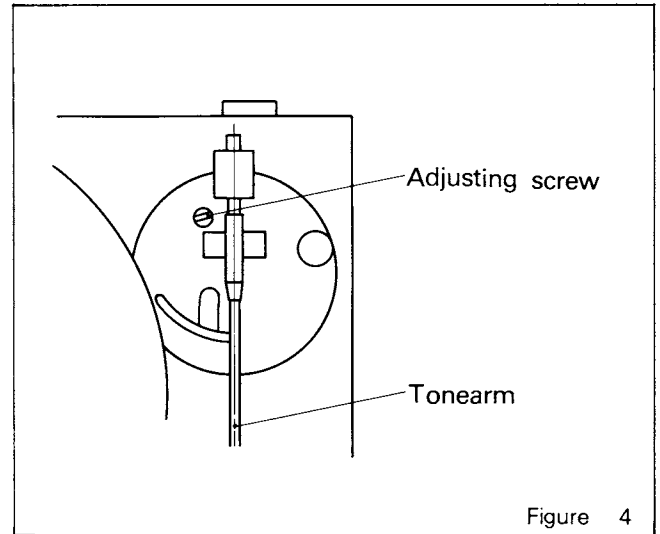

Figure 4
- (1) Set the cueing lever to the up position.
- (2) Move the tone arm to the end of the record disc so that the end of the program is just occurring. Rotate the adjusting screw so that the Trip trigger does not engage the turntable gear hook until complete record ends (Fig. 4).
- (3) After this adjustment check that the tone arm returns at the end of the completed program on the disc. We recommend to use a test record comparable to stock No. RG-800 for this check.